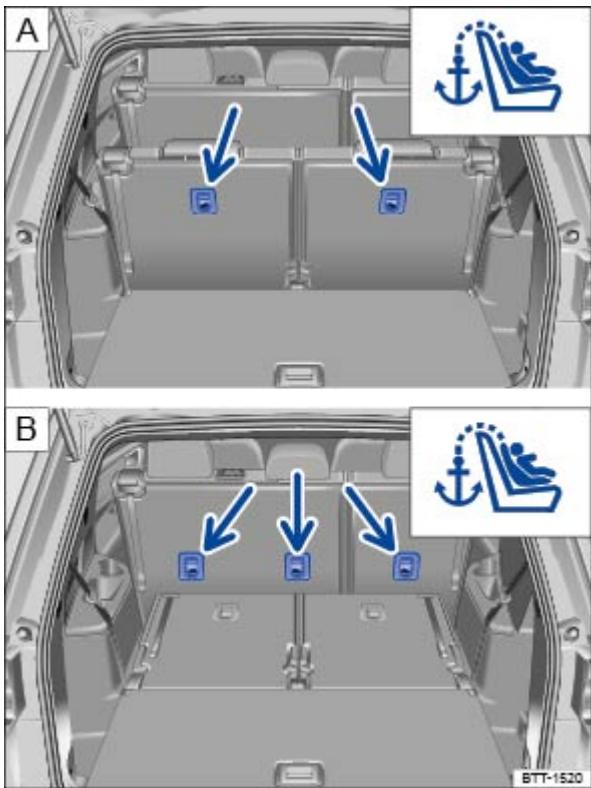

Fig. 45 Anchorage points for the top tether strap on the back of the third row seats and the second row seats .
- Locate the tether anchor behind the rear seat backrest ⇒ Fig. 45 .
- Attach the tether strap anchorage hook into the opening of the tether anchorage ⇒ Fig. 45.